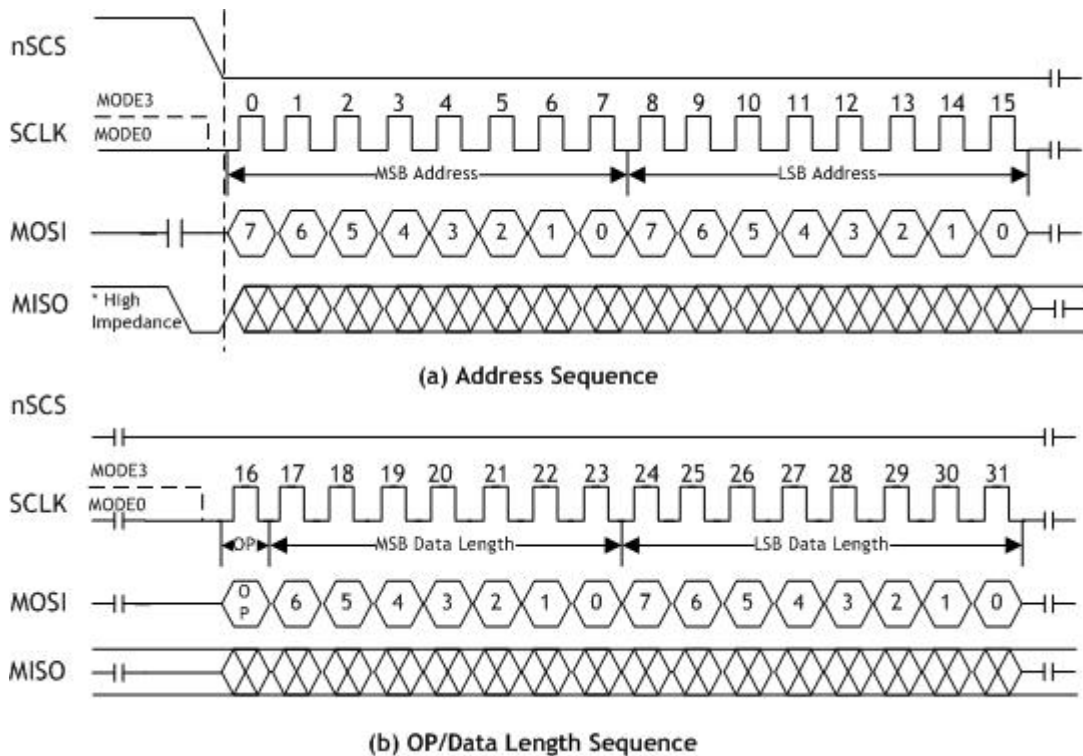
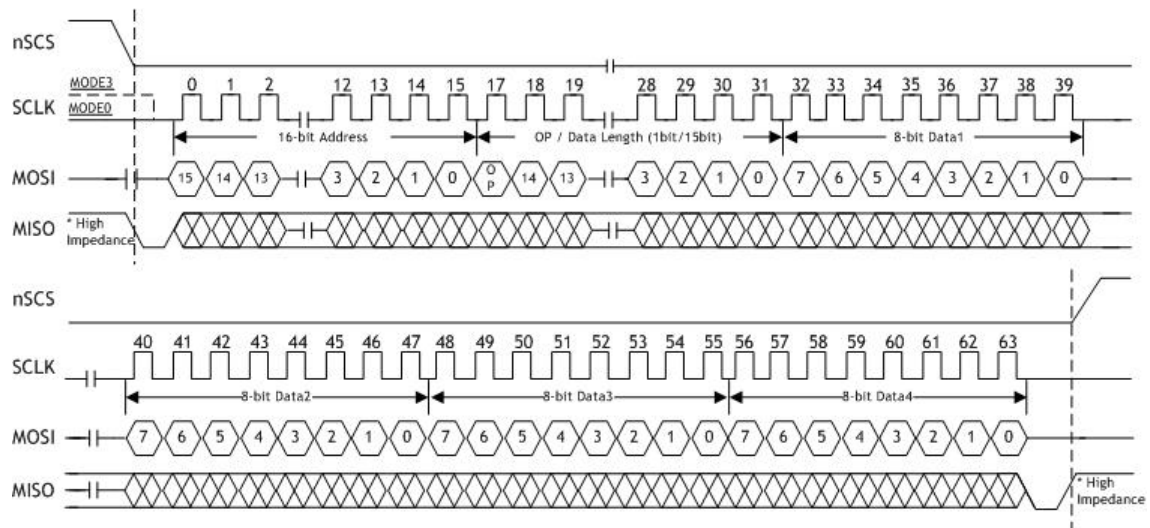

Figure 19 Address and OP/DATA Length Sequence Diagram
Figure 20 READ Sequence
The READ Processing Sequence Diagram is shown in Figure 20. The READ processing is entered by driving nSCS low, followed by the Address, the OP code, the Data Length and the Data byte on MOSI. The Address, the OP/Data Length Sequence Diagram and the Data are shown in Figure 19. The OP code (OP) is defined type of the READ OP and WIRTE OP. On OP = 0, the read operation is selected. Otherwise, the write operation is selected. In W5200 SPI mode, the Byte READ processing and the burst READ processing are provided. The Byte READ processing takes 4 instructions which is consist of the 16-bit Address, the 1-bit OP code(0x0), the 15-bit Data length and 8-bit Data. Otherwise, The Burst READ processing only takes the Data instruction after the setting of the burst read processing. To distinguish between the Byte READ and the burst READ processing, the Data length is used. If the Data length is '1,' the Byte READ processing is operated. Otherwise, the Burst READ Processing is operated when the Data length is more than two. The MISO pin should be selected by driving MISO low after the falling edge of the nSCS.